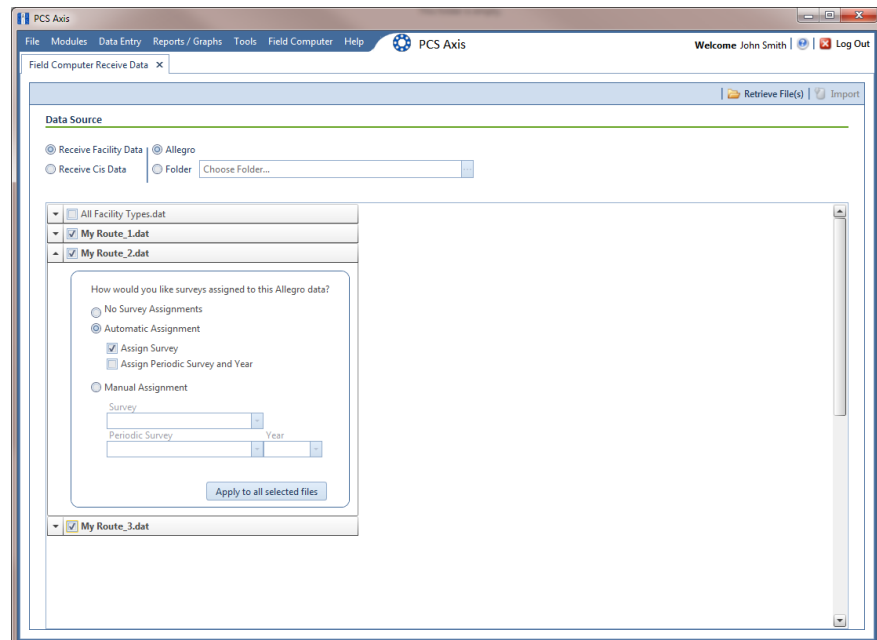

Figure 13-17. Field Computer Receive Data
- 5 Choose survey files you want to transfer from the Allegro. Click the check box for one or more survey files in the list of files available for selection (Figure 13-17).